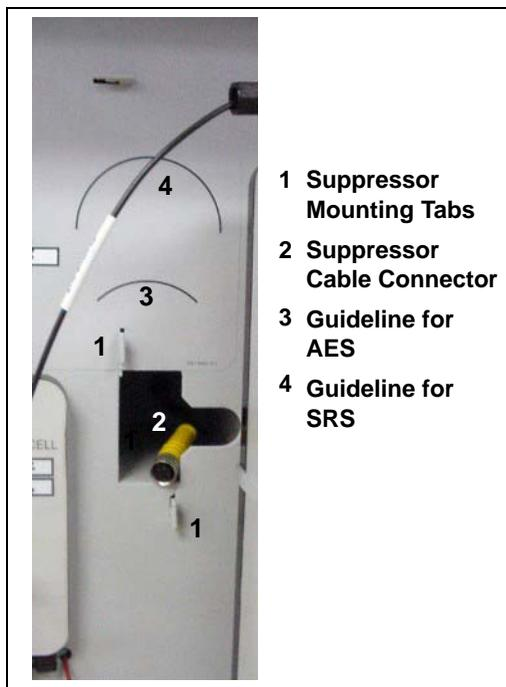

Figure 5-15. Suppressor Guidelines and Mounting Tabs on Component Panel
11. Align the top of the suppressor with the guide line printed on the component panel (see Figure 5-15) and align the slots on the rear of the suppressor with the tabs on the panel.